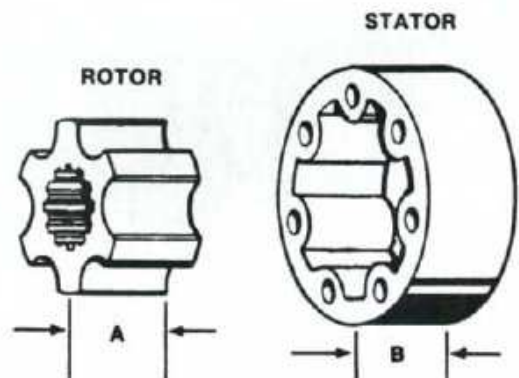
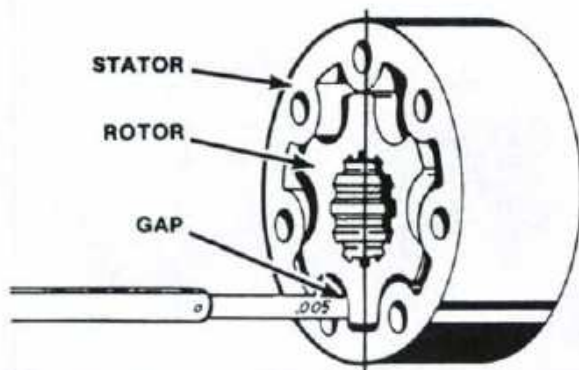

Fig. 36—When checking rotor and stator, measure distance "A" on rotor and distance "B" on stator. Refer to text.
Fig. 37—Use a feeler gage to measure gap between rotor and stator.
Clean and inspect all parts for excessive wear or other damage. If housing (9), seat (6), check valve (7), spool (20), sleeve (22), rotor (28) or stator (30) are not suitable for further service, renew complete hand pump assembly as these parts are not serviced separately. All "O" rings, seals and plate springs are available in a seal kit. Check rotor (28) and stator (30) for wear as follows: Refer to Fig. 36 and measure thickness of rotor at (A) and stator at (B). If (A) is 0.002 inch (0.051 mm) less than (B), renew hand pump. Refer to Fig. 37 and place rotor in stator as shown. Using a feeler gage, measure gap as shown. If gap is 0.005 inch (0.127 mm) or more, renew hand pump assembly.